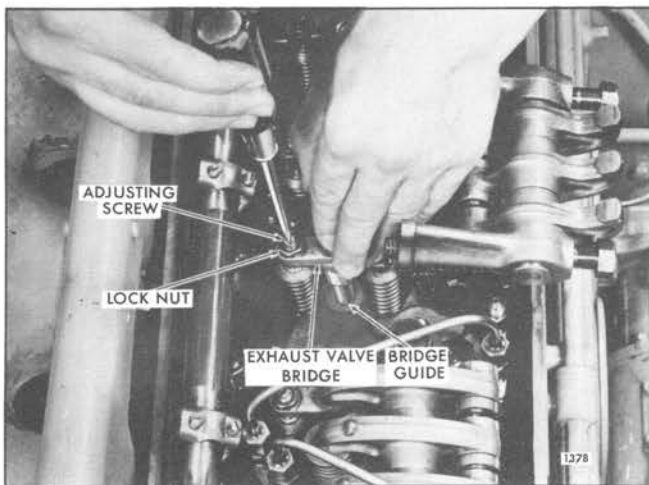

Fig. 18 - Valve Bridge Adjustment
3. While firmly pressing straight down on the pallet surface of the valve bridge, turn the adjusting screw clockwise until it just touches the valve stem. Then, turn the screw an additional 1/8 to 1/4 turn clockwise and tighten the locknut finger tight (Fig. 18).